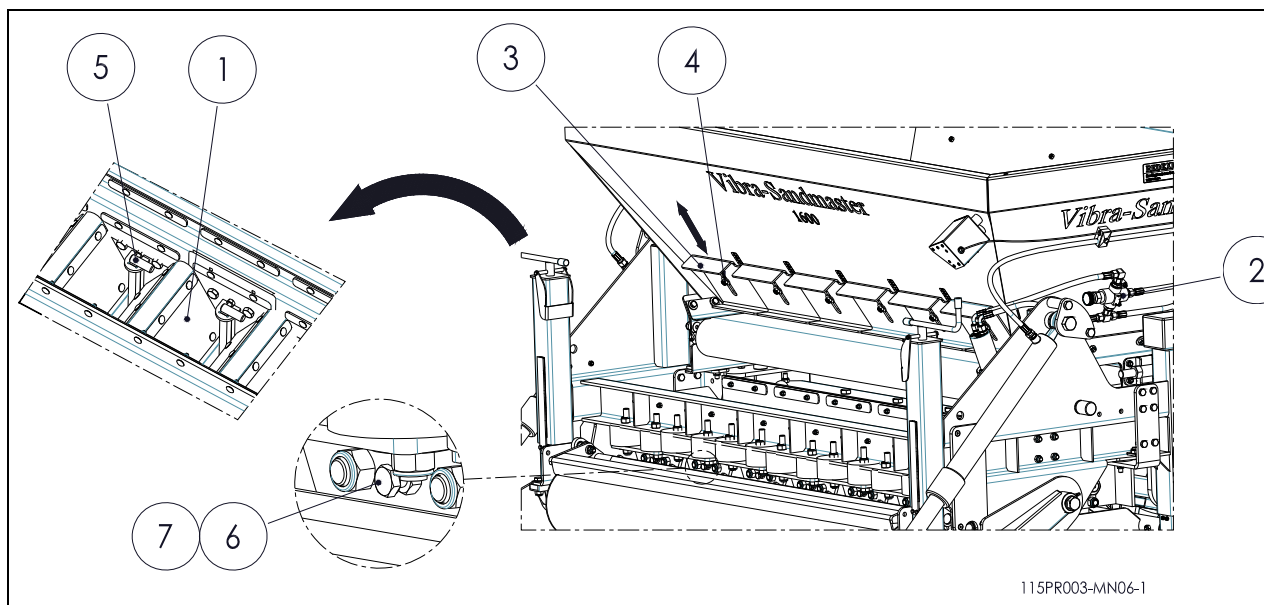

Fig.11
- **Setting by adjusting the speed of the conveyor.** (Fig.11)
- **Setting per filling coulter.** (Fig.11)
– **Setting of the coulter pin. (Fig.11)**